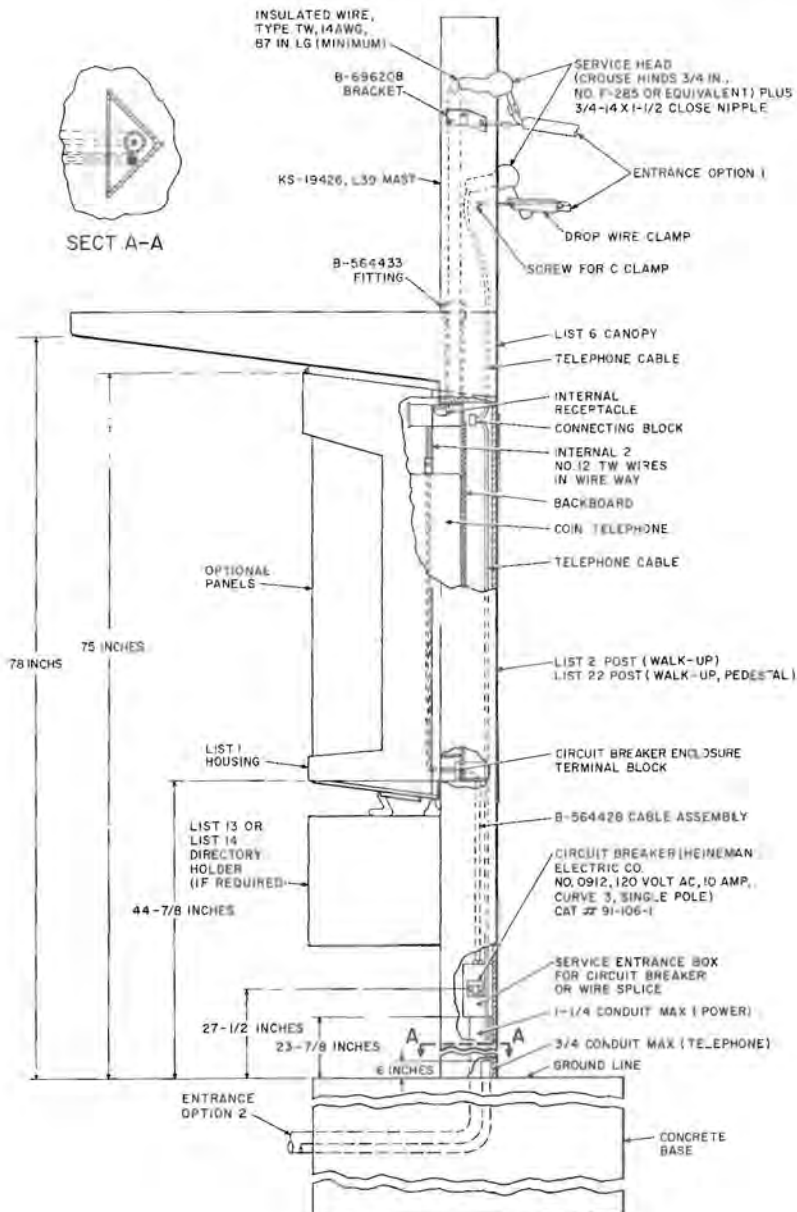

Fig. 17—Installation Requirements for Post or Pedestal Mounting, Walk-Up Location
- 3.40** Embed KS-19426, List 2 post(s), for walk-up mountings, or KS-19426, List 3 post(s), for drive-up mountings, in the center of the base to concur with the dimensions shown in Fig. 17 or 18.
- 3.57** The wiring for a post mounting may enter from the ground or from a mast (Fig. 17, or 18).